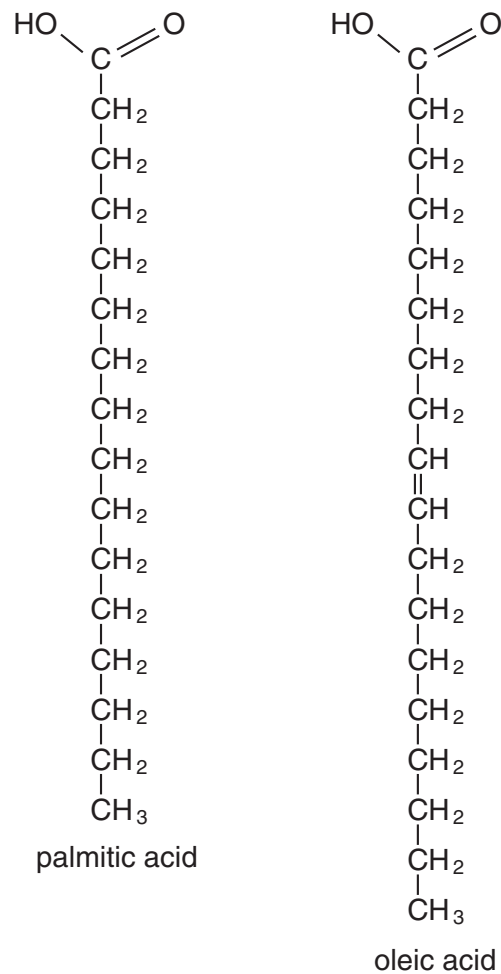

Fig. 4.1
- The molecular structures of palmitic acid and oleic acid are shown in Fig. 4.1.
- (i) Using Fig. 4.1, state how the structure of oleic acid differs from that of palmitic acid.